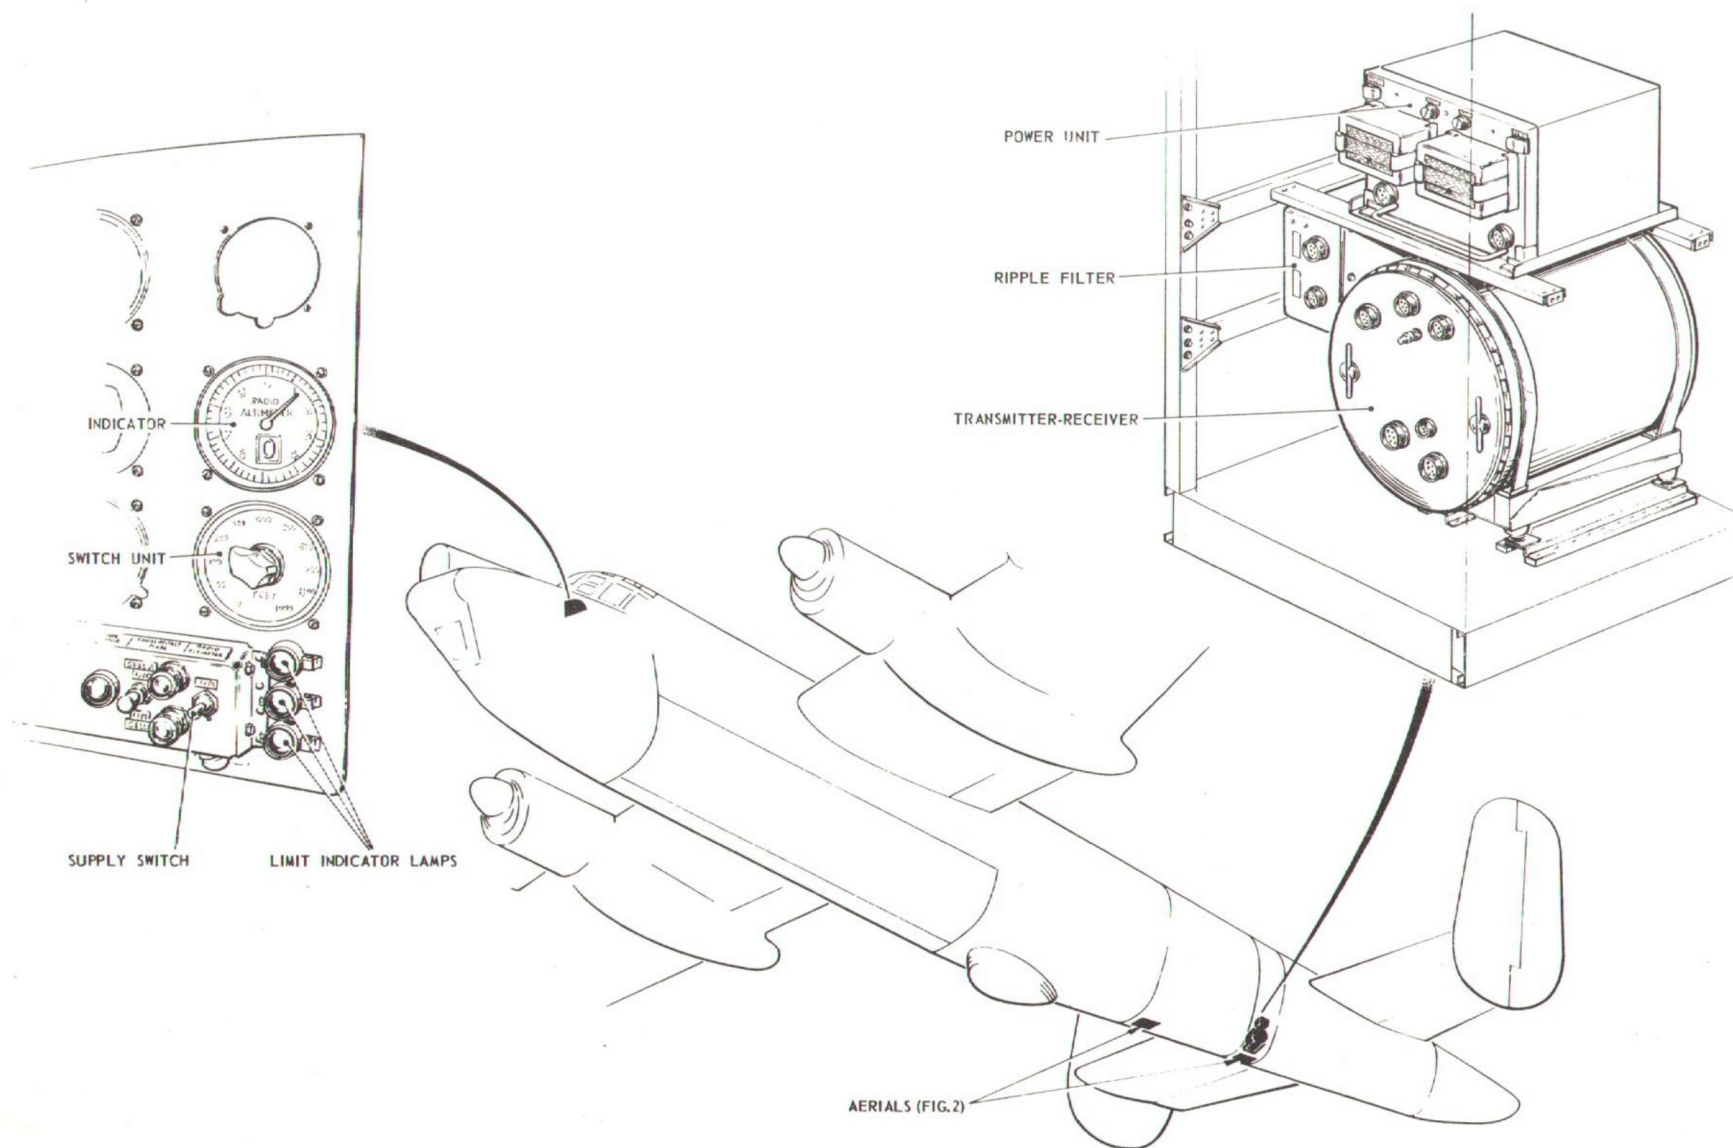

Fig.1 - Location of equipment
4. The transmitter-receiver, Type 1576A, is a pressurized unit and is located in the rear section of the fuselage (fig.1). The unit is secured by metal straps to a mounting, Type 1032, which is fitted on a resilient mounting assembly, Type 1033/1.